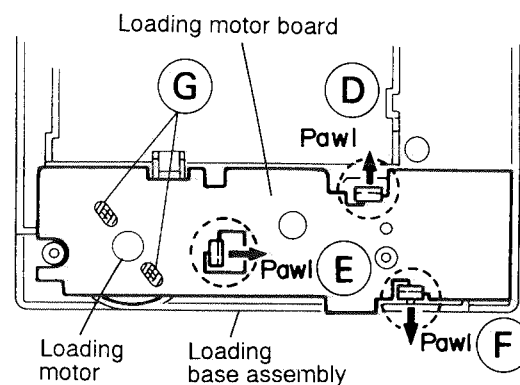

Fig. 5-20
7. After turning over the loading base assembly, remove the three pawls ((D), (E) and (F)) by spreading these pawls in the arrow direction (See Fig. 5-20).
8. Remove the two soldered parts (G) connecting the loading motor (See Fig. 5-20).